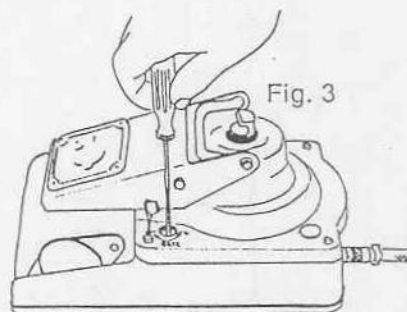

Fig. 3.
1. Remove the cover over the adjustment screw »Rate« (see fig. 3).